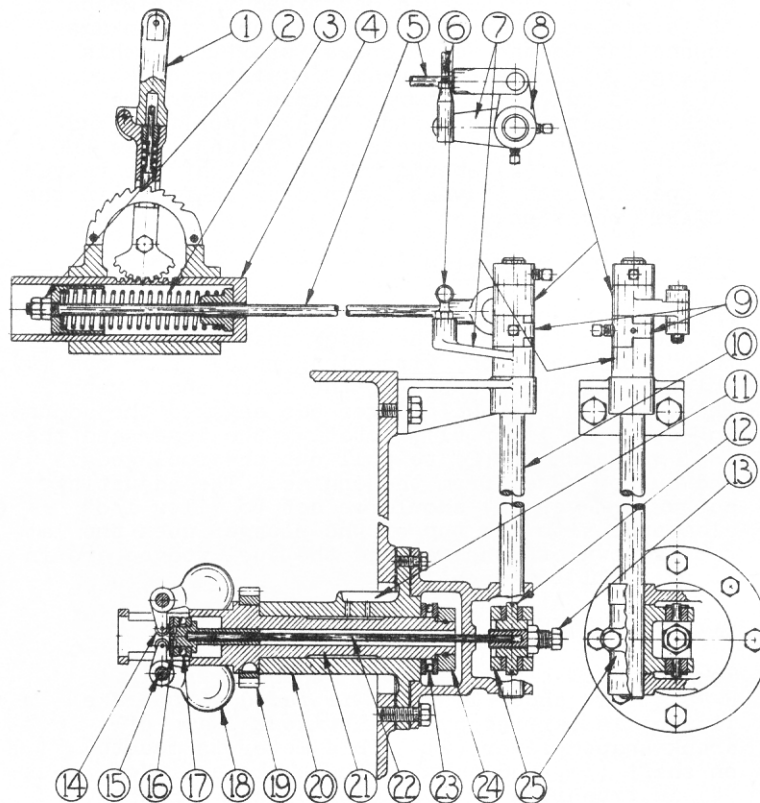

FIG. R-8
The flyball type governor, mounted near the bottom of the forward end of the latch box and driven from the camshaft gear, is shown in Fig. R-8. Cast iron bearing (20) is adjusted and doweled to the latch box to allow .004" to .005" backlash between governor gear (19) which is pressed and keyed to the governor body, and the camshaft gear. Running clearance between governor body (21) and the bearing is .0015" to .0025" and lubrication is from a catch basin (11) in the top of the bearing. Basin (11) can be filled from an oil cup in the side of the latch box.
The construction on 10" and 10½" bore engines differs slightly from that described above and shown in Fig. R-8 in that the quill rod (22) rotates with the governor body and flyballs. Thrust bearing (17) is moved to the outer end of the quill rod, where it is mounted in a thrust block, supported by the fork lever. A cover plate excludes dirt and supports a light spring which bears against the thrust block, holding the weights in. The adjusting screw (13) is not used in this construction.
The engine speed is controlled by varying the tension of governor spring (3). As will be seen in Fig. R-8 the "fixed" end of the governor spring is supported by spring cage (4), which follows the motion of control lever (1). Moving the lever to the right in Fig. R-8 increases the spring tension and hence the engine speed and conversely moving it to the left decreases the engine speed.